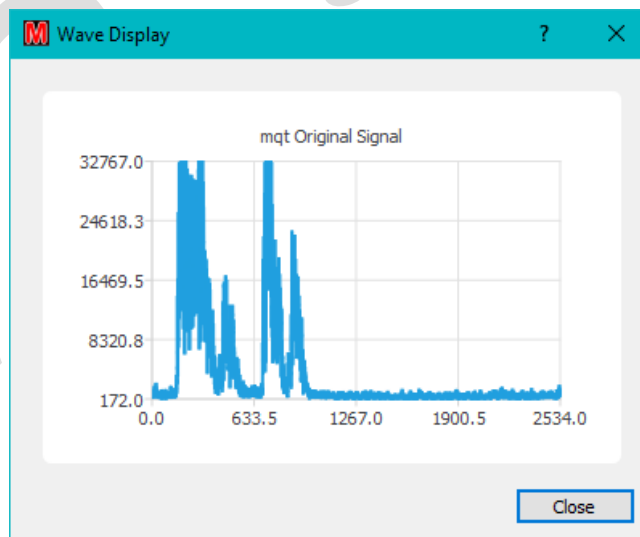

Figure 129 –Output displayed by the SHOW button
- “**Show**” provides a spectrum display of the recorded message(Figure 129)